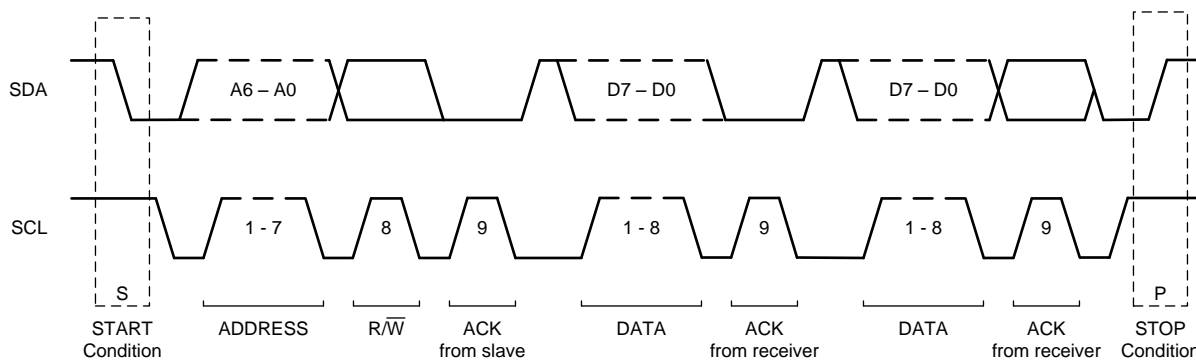

图 11. I²C Data Transfer Format
图 11 shows the format of the data transfer. The master initiates all transactions with the TLA202x by generating a START (S) condition. A high-to-low transition on the SDA line while SCL is high defines a START condition. The bus is considered to be busy after the START condition.